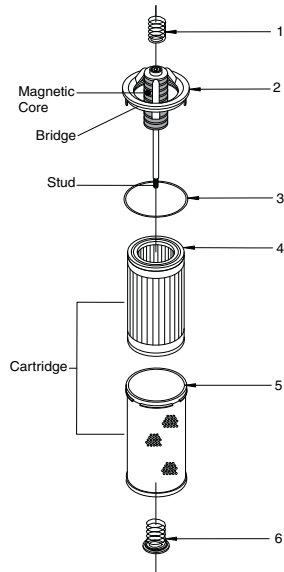

Figure 6-29 In-Tank Return Filter
In-tank return filter elements (see Figure 6-29) must be serviced when the differential pressure indicator indicates service is required. The differential pressure indicator is located near the valve module on the right side of the lumberjack.
4. Remove in-tank filter assembly (see Figure 6-29).
5. Remove the bypass spring assembly (see Figure 6-29).
6. Remove contaminated cartridge with a twisting motion (see Figure 6-29).
- a. Discard disposable element (see Figure 6-29).
1. Clean magnetic core (insert assembly) with a lint free cloth (see Figure 6-29).
2. Insert new element into clean sleeve (see Figure 6-29).
3. Assemble insert assembly and cartridge (see Figure 6-29).
Note: For ease of mounting, hold the cartridge away from the magnetic core until the stud is through the hole in the bottom of the cartridge. Then slide the cartridge up to securely seat with the top of the bridge of the insert assembly (see Figure 6-29).